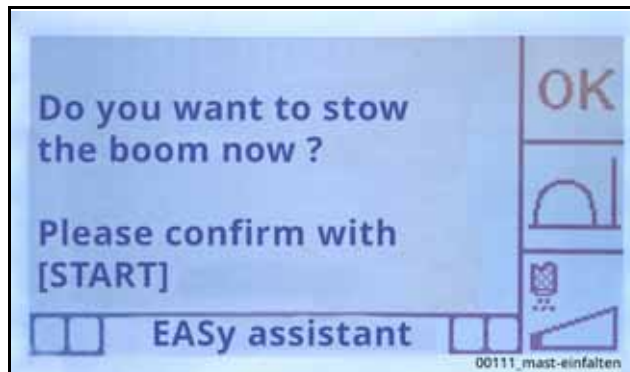
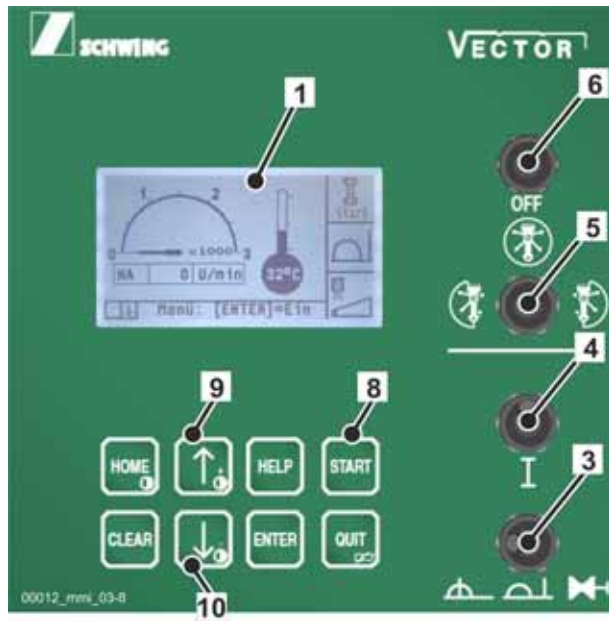

Fig. 439
Fig. 446
- Use the "Start" button (8) (**Fig. 446**) to confirm the message on the display of the VECTOR control asking whether you want to leave the work area (**Fig. 439**).
- Confirm this by pressing the "START" button (8) (**Fig. 446**).